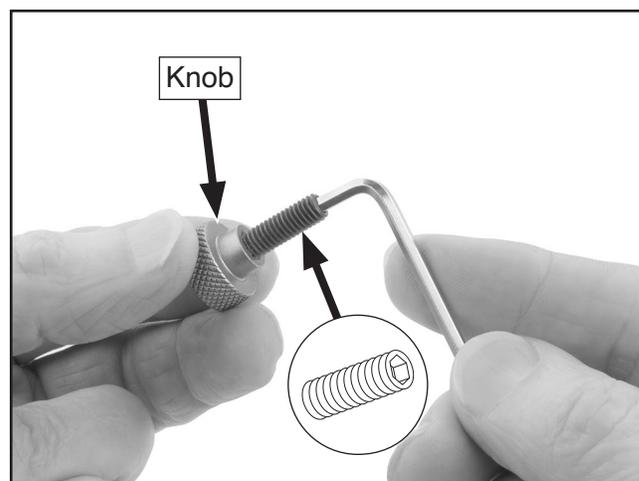

Figure 4. Threading set screw into knob.
3. Fully thread (2) set screws from **Step 2** into M5-.8 knobs (see **Figure 4**).